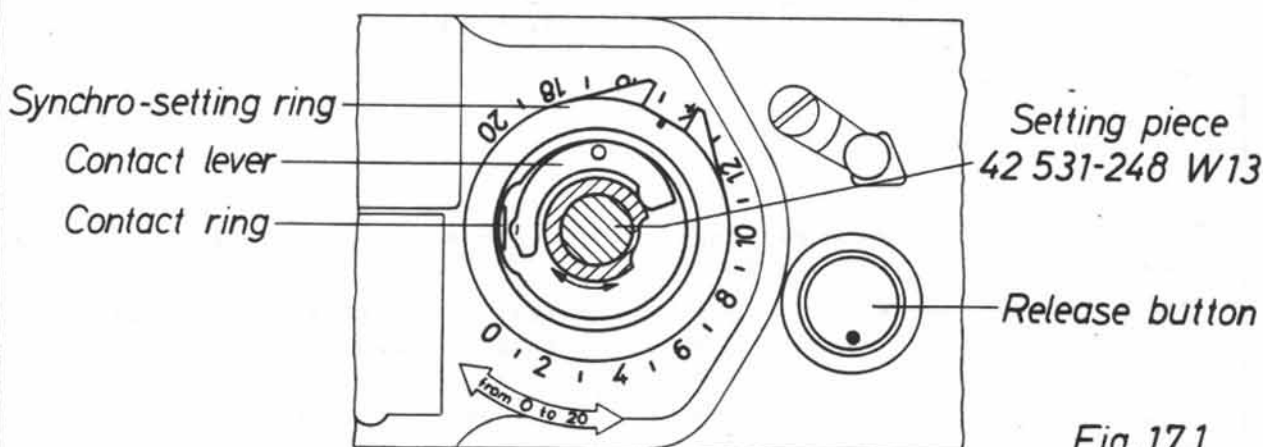

Fig. 17.1
- 1.15 Set lever to "L", tension the shutter of the Leica, and engage the release arm at the $\frac{1}{1000}$ second setting. Mount the setting piece 42 531-248 W13 on the release arm, and turn it without allowing the contact lever to enter the cut-out of the setting piece. At the same time also turn the synchro-setting ring from 0 to 20, and check that the contact lever and contact ring do not make contact anywhere (see fig. 17.1).